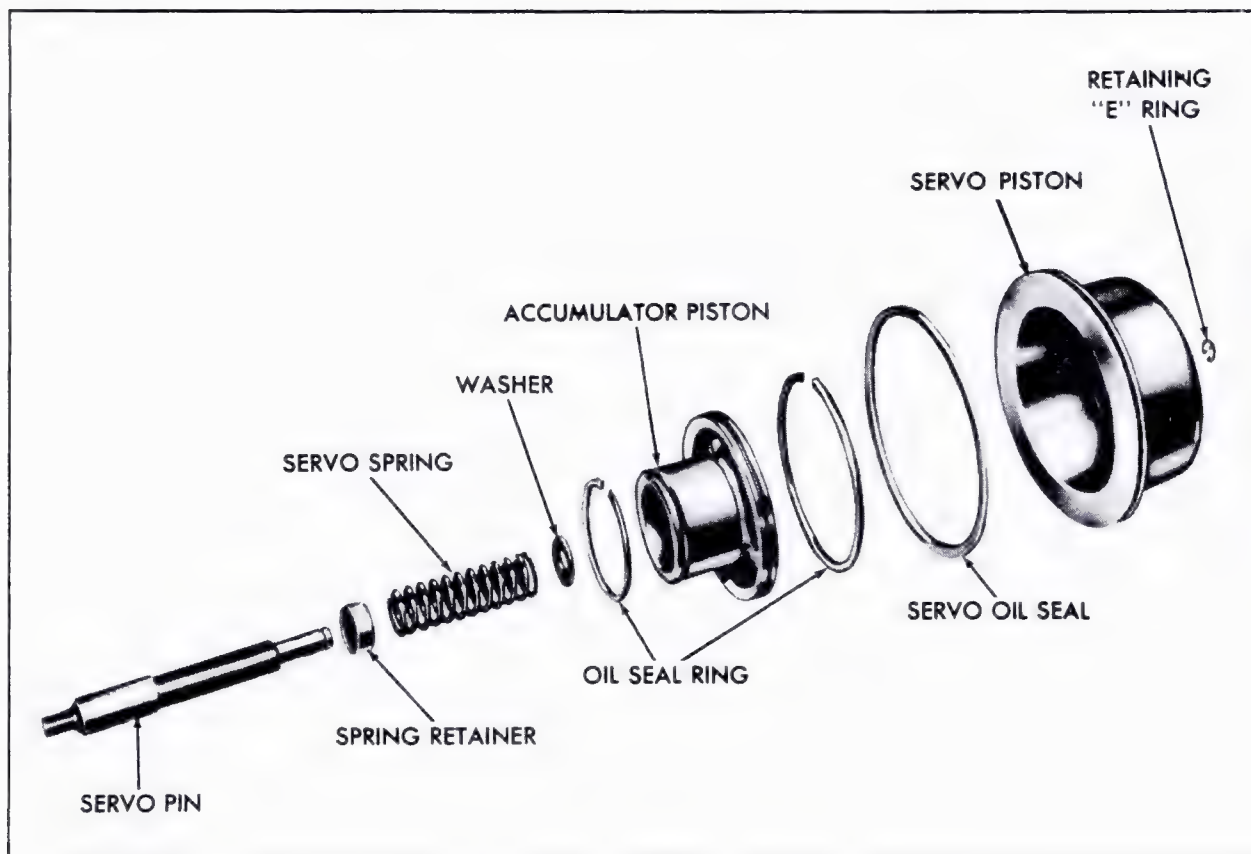

Fig. 7-67 Rear Servo and Accumulator Assembly Disassembled
i. Rear Servo Assembly (Fig. 7-67)